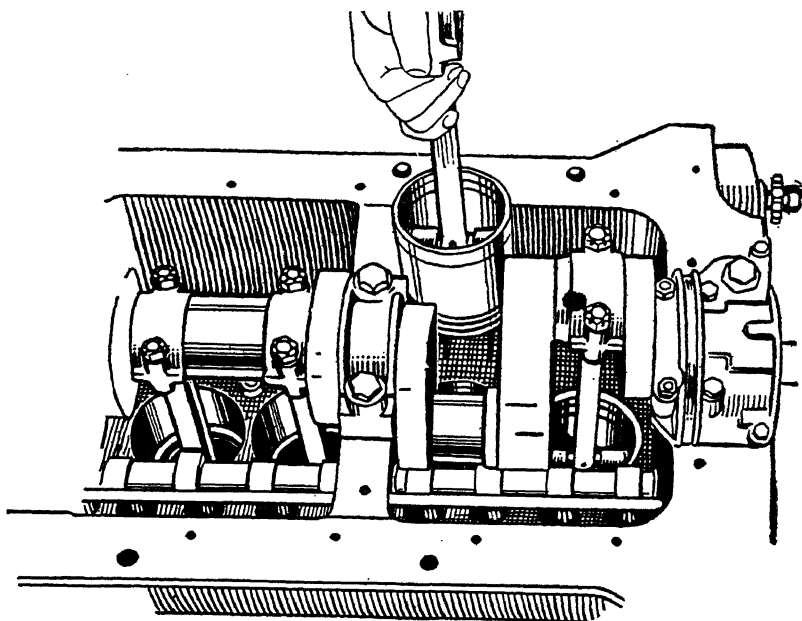

Fig. 10. Pulling Piston and Rod Assembly
**Fitting Connecting-Rod Bearings.** The first operation is to remove the connecting rods, which in some engines can be pulled from the bottom of the engine as shown in Fig. 10. There are several methods of fitting connecting-rod bearings which have come into use with the advent of the highly standardized engines in use. Precision methods in manufacturing put out an engine, the parts of which are exact duplicates within very close limits. It is possible to use precision methods in repairing these accurately built engines. However, the automechanic will find many times that there is nothing quite so good for the work as hand scraping bearings to fit.